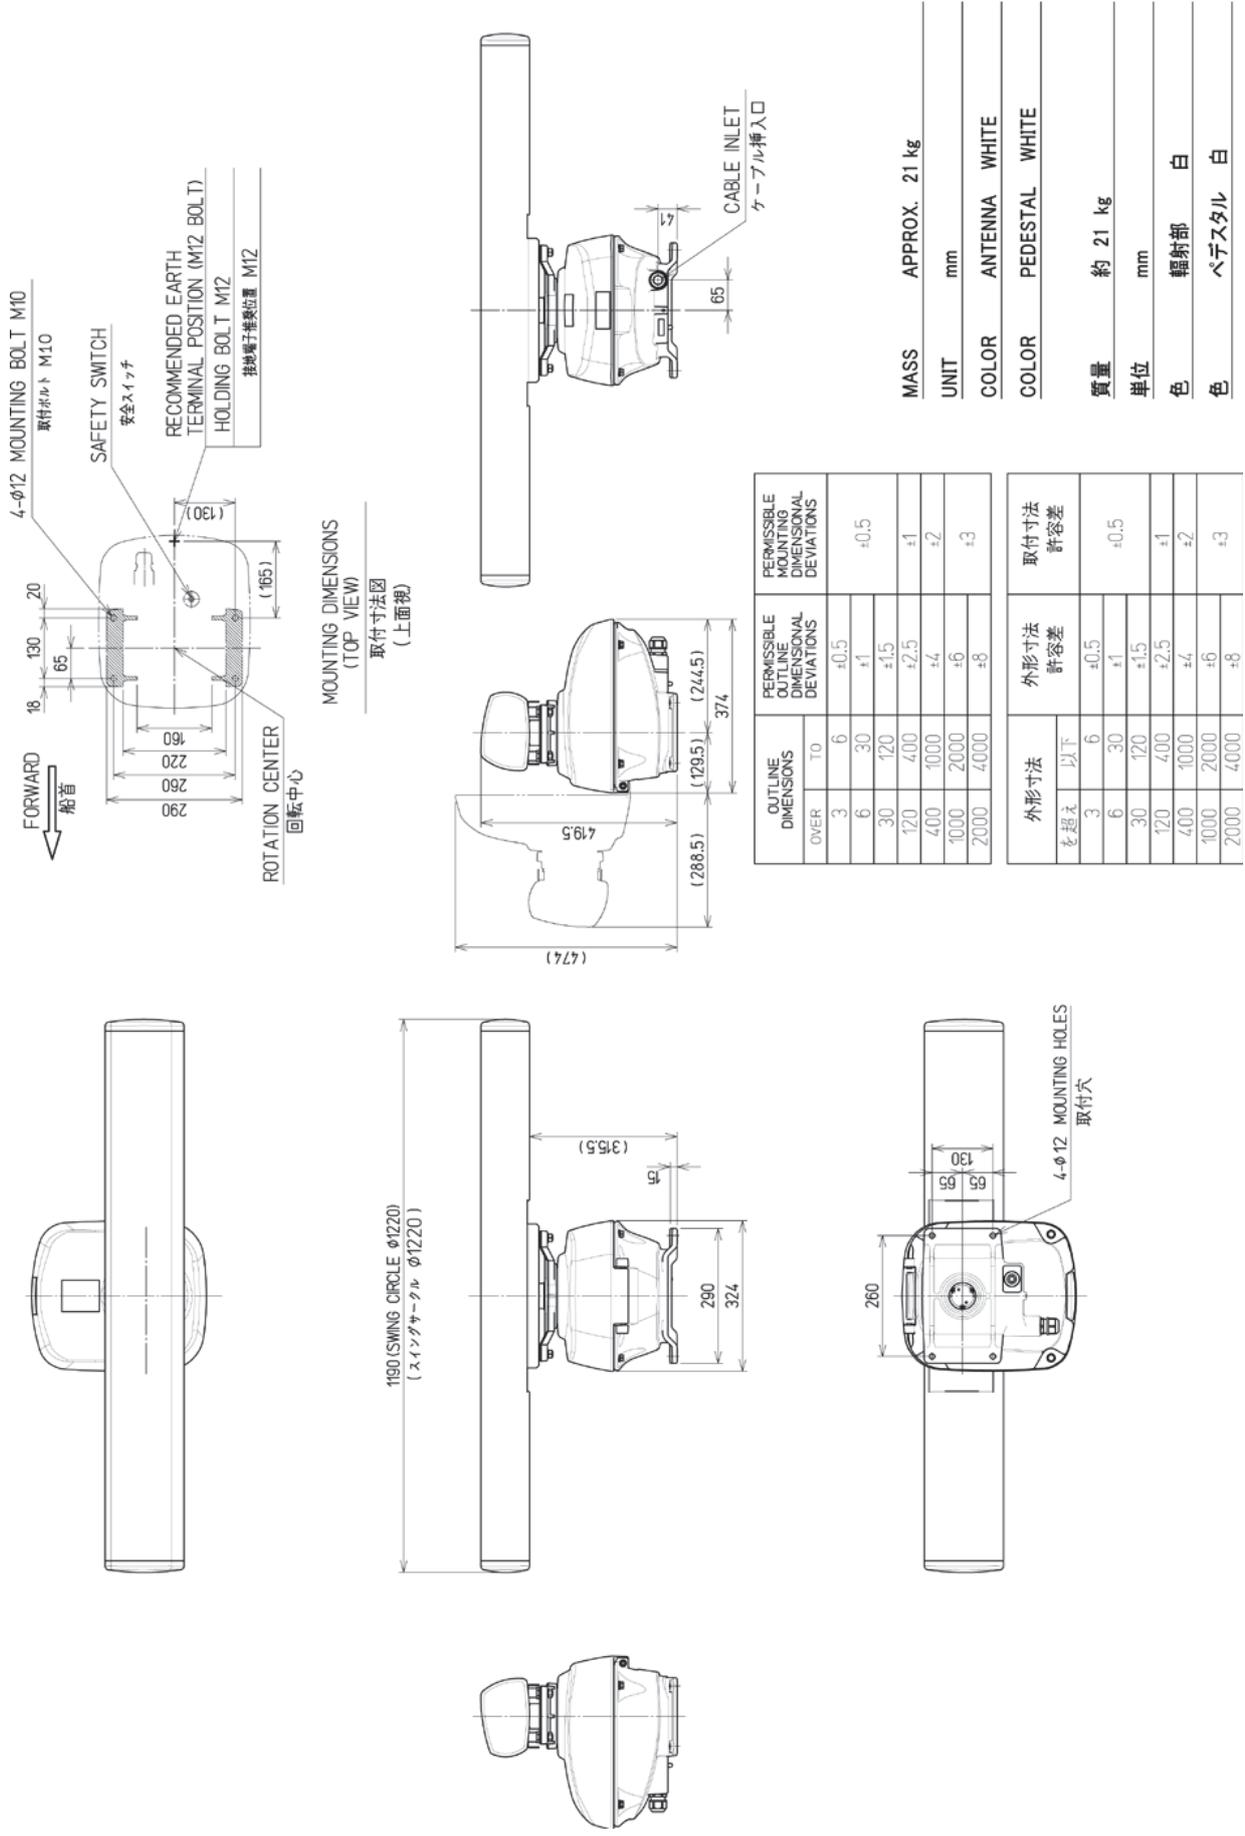

Fig. 1.3 Exterior Drawing of Scanner Unit, Type NKE-2063A
- Fig. 1.3 Exterior Drawing of Scanner Unit, Type NKE-2063A